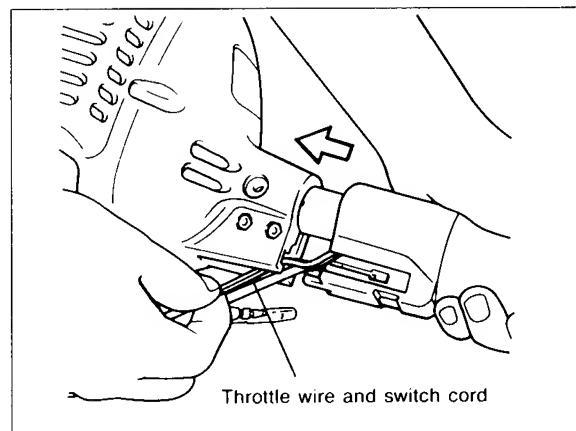

Fig. 7
3. Insert the drive shaft into the holder case fully until the grip end reaches the holder case while passing the throttle wire and the switch cords through the slot in the holder case. (Fig. 7)